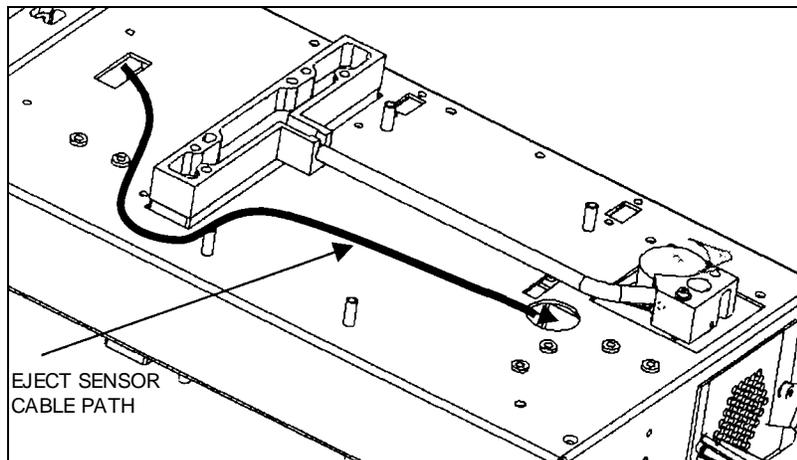

Figure 11-35 Cabling for Eject Sensor
- 2 Remove the cable as shown in Figure 11-35.